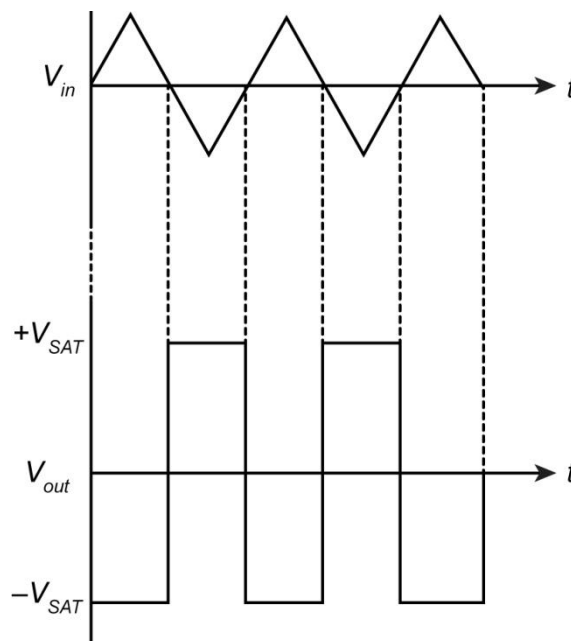

Fig. 14.23: Op amp amplifier.
- The output waveform is shown in Fig. 14.23.